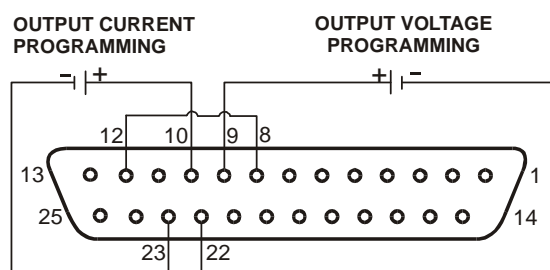

Fig.6-1: Remote voltage programming connection
6. Connect the programming source to the mating plug of J1 as shown in Fig.6-1. Observe correct polarity for the voltage source.